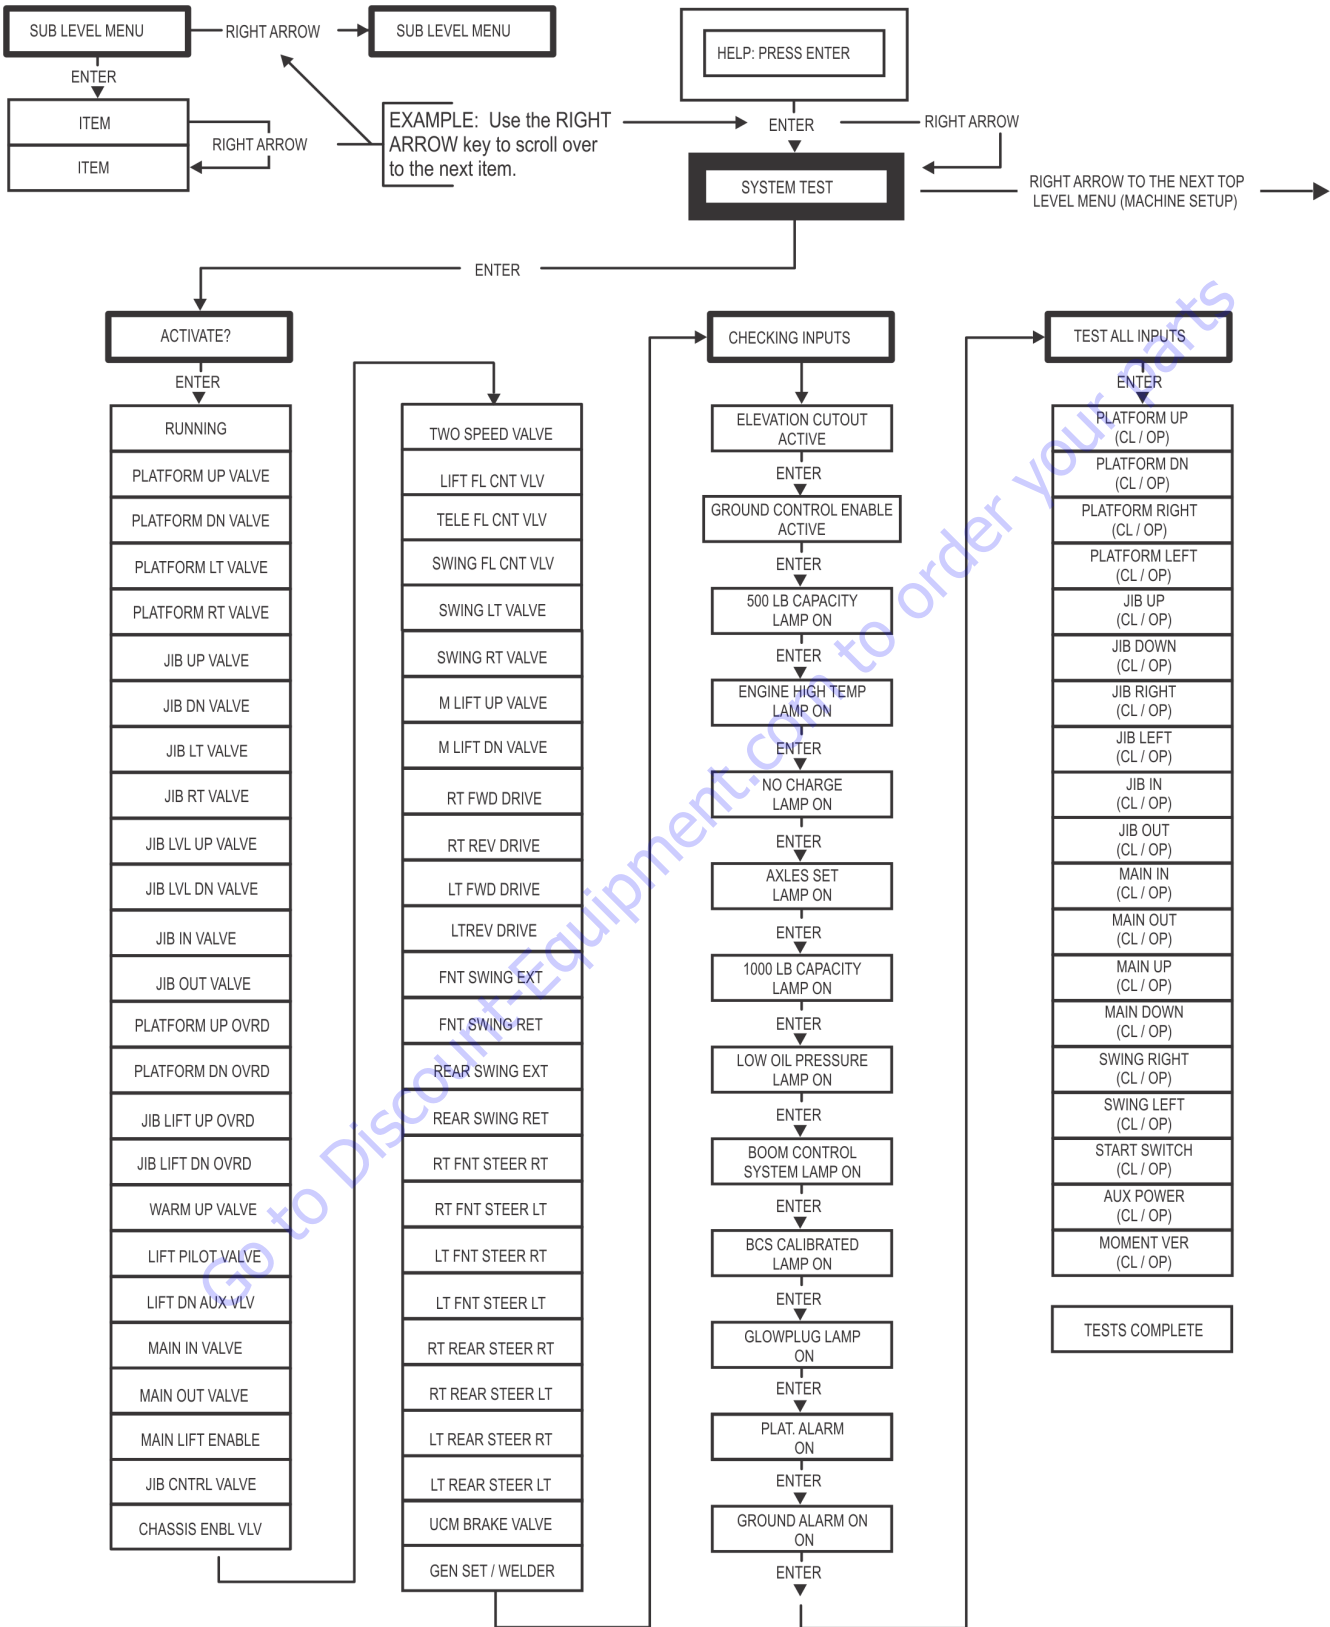

Figure 6-31. System Test Flow Chart - Ground Station Tests
6. Follow the flow path in Figure 6-31., System Test Flow Chart - Ground Station Tests and go through the component tests. Hit the ESC key during any part of the test to return to the main menu without completing all tests or wait until all tests are complete. During the TEST ALL INPUTS sequence, the analyzer allows control switches to be operated and shows if they are closed (CL) or open (OP).